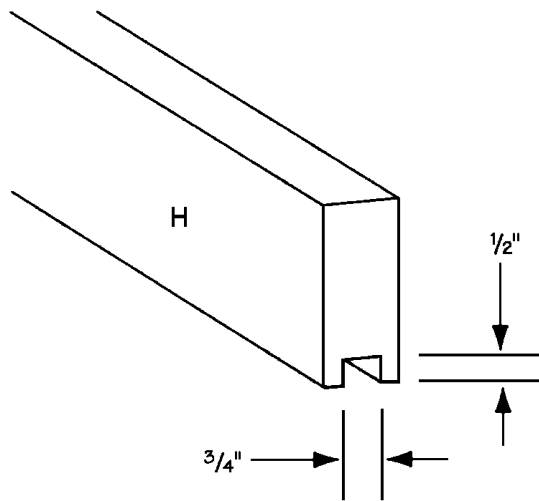

Figure 4
1. Cut two horizontal backs (H) from 2 x 4 pine, each measuring 59 inches.
2. Cut a 3/4" wide dado, 1/2" deep, down the length of one 59:" edge of each of the horizontal backs (H), as shown in *Figure 4*.